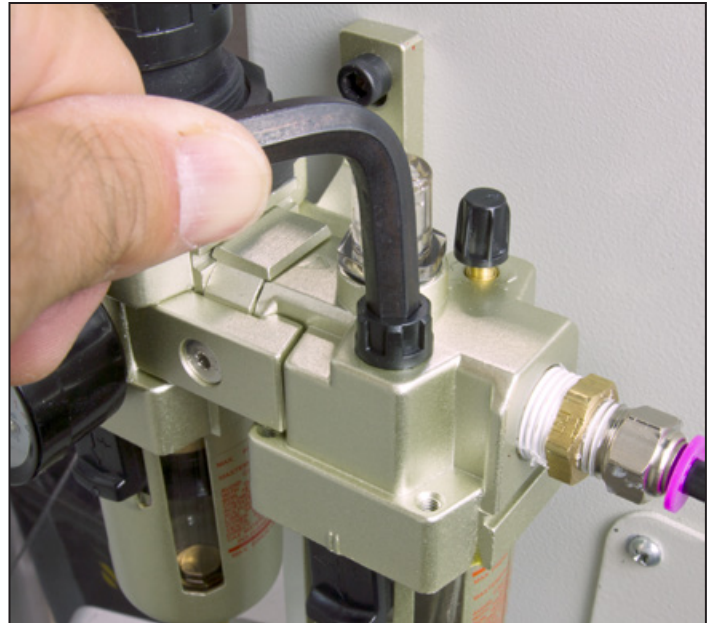

Figure 2
8. Open the FRL fill port with a hex key (see **Figure 2**).